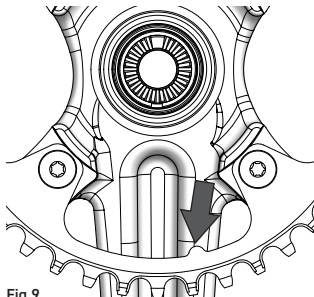

Fig.9
- **FOR EKAR GT:** position the new chainring so that the marks on the chainring itself are visible on the inside of the crankset and so that the reference tooth is correctly positioned (Fig. 9).